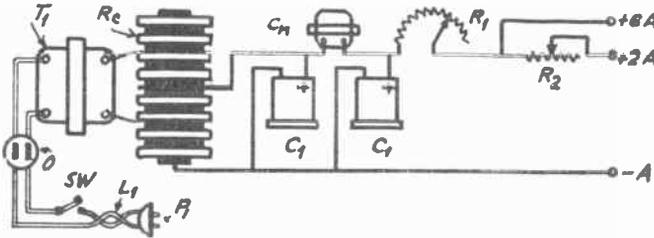

FIG. 5
*The A Eliminator.* First I will consider the A eliminator. The circuit diagram is given in Fig. 5, and below this semi-pictorial diagram is a list of parts that you will need and which you can procure from most radio parts jobbers.